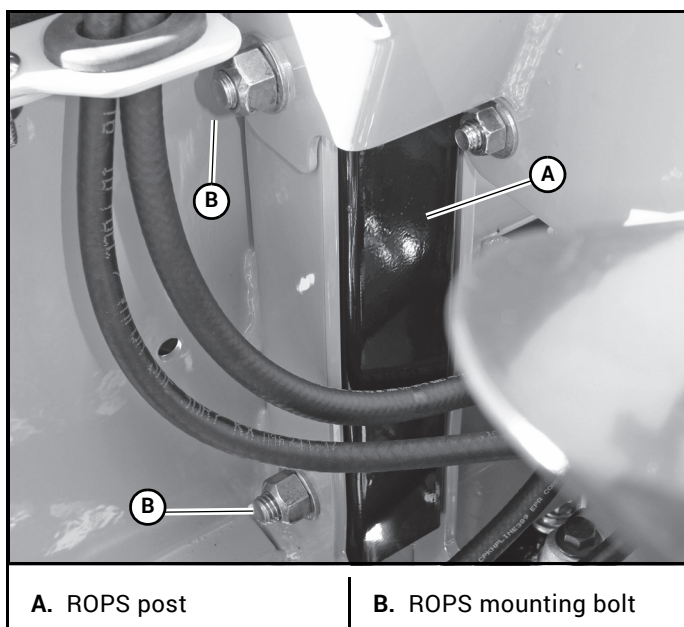

Figure 3-9
1. Check the torque of the ROPS mounting bolts (Figure 3-9). Tighten the bolts to the correct torques as shown below if necessary.